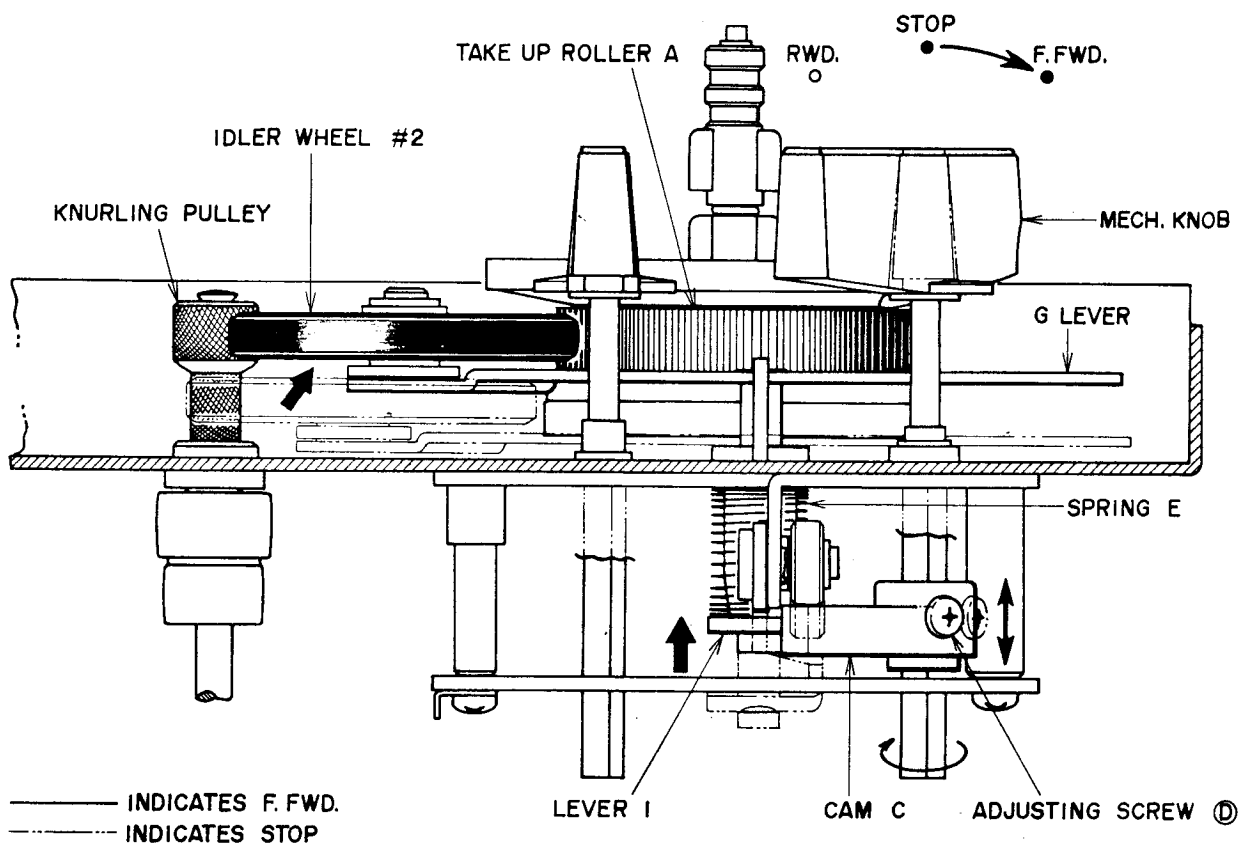

Fig. 14
(See Fig. 14)
Move Cam ③ shown in Fig. 14 up and down as indicated by the arrow mark (↔) in the figure and adjust Lever ④ height so that Idler #2 contact between Take Up Roller A and the knurling Pulley is uniform when the F.FWD/RWD Lever is set to F.FWD position. Fix at adjusted position with Adjustment Screw ⑤. During operation, confirm that the rotating position of Idler #2 is ideal.